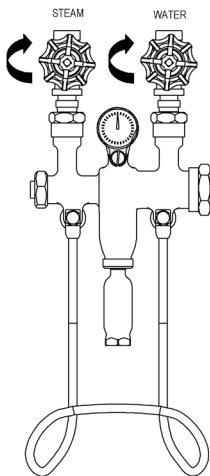

Figure 3:
1. Place Valve Ring (3), including O-ring, on Ring Seater tool as shown in Fig. 3 and drive into valve body as far as it will go keeping Ring Seater as straight as possible.
2. Drop Lantern (8) into body with large I.D. and wider band facing up making sure Lantern (8) sits evenly on ring.
3. Before installing Bonnet Assembly (10) into body, fully retract stem making sure spring is located between back of Piston (4) and Bonnet (10). Install into body. Tighten down Bonnet Nut (11) until refusal.
**Note:** When installing new spring, Split Nut (5), Piston (4) must be disassembled from Stem (6). Install new spring over stem against Bonnet (10). Reassemble Split Nut (5) and Piston (4). Hold spring against Bonnet (10).